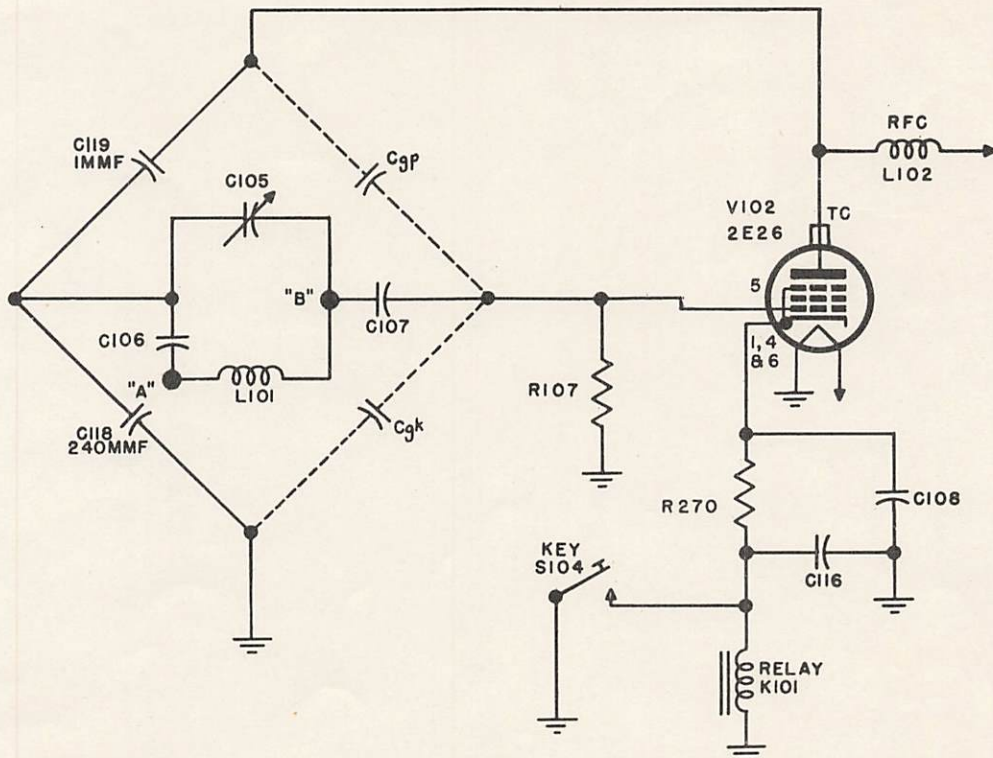

FIG. 18.2 TRANSMITTER RT-6 NEUTRALIZATION CIRCUIT SIMPLIFIED DIAGRAM
- c. C118 and C119 are part of a grid neutralization network as shown in Fig. 18.2; Cgp represents the grid to plate capacitance and Cgk the grid to cathode capacitance of V102 (2E26). The "bridge" circuit is in balance when $\frac{C119}{C118} = \frac{Cgp}{Cgk}$.